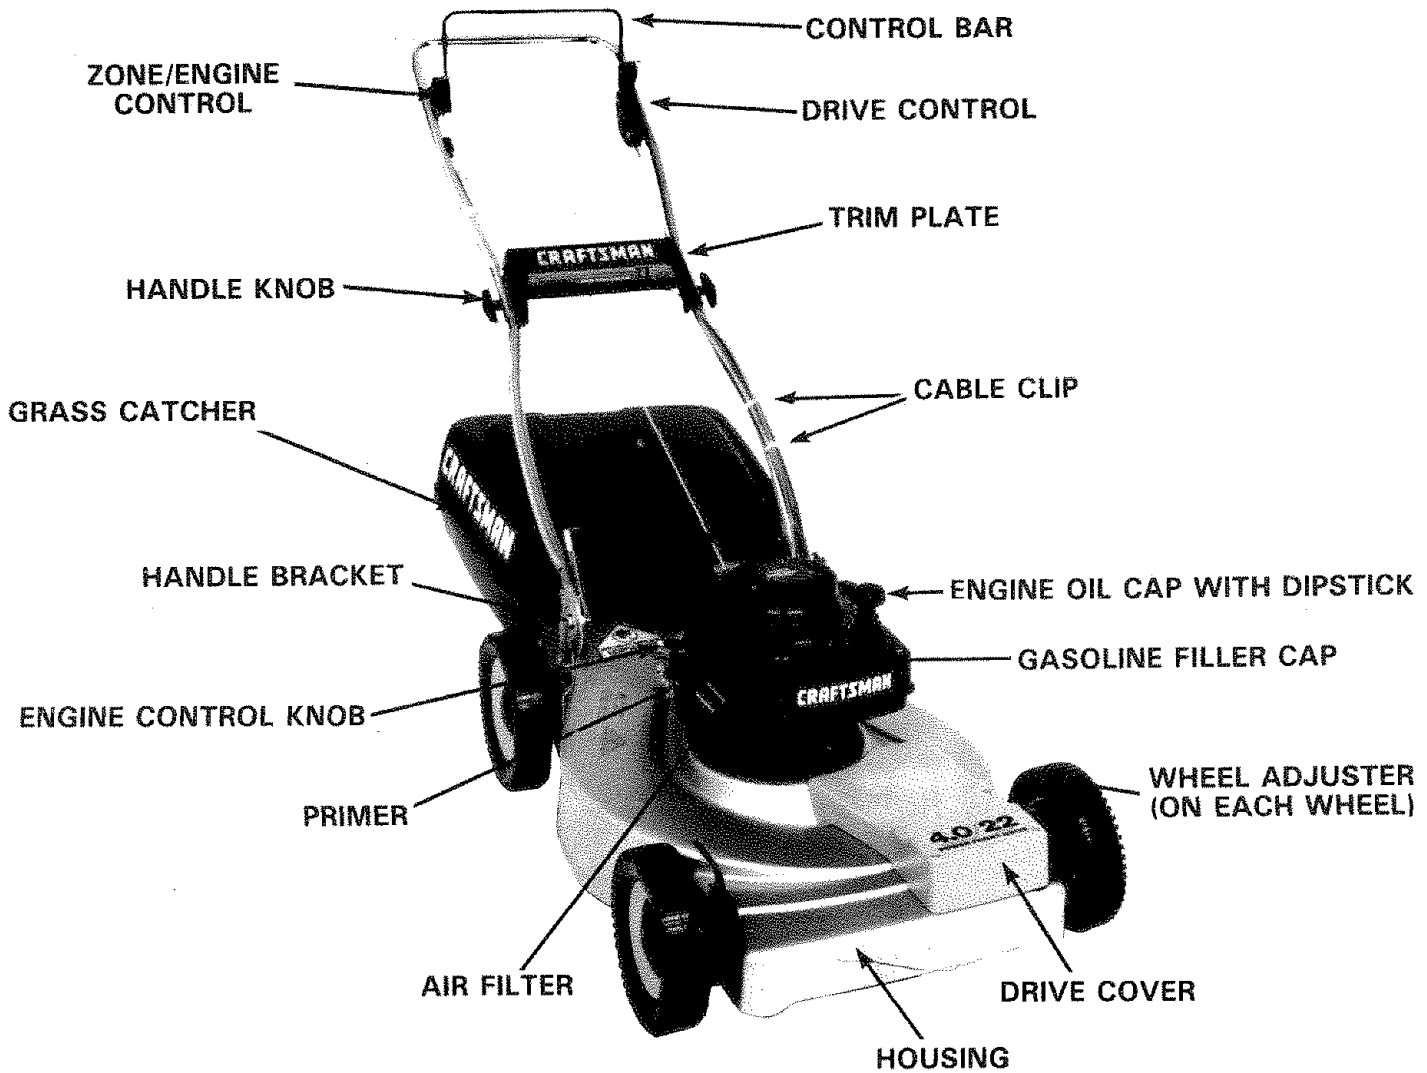

FIG. 1
- j. Snap cable clip over cable and lower handle (See Fig. 1).